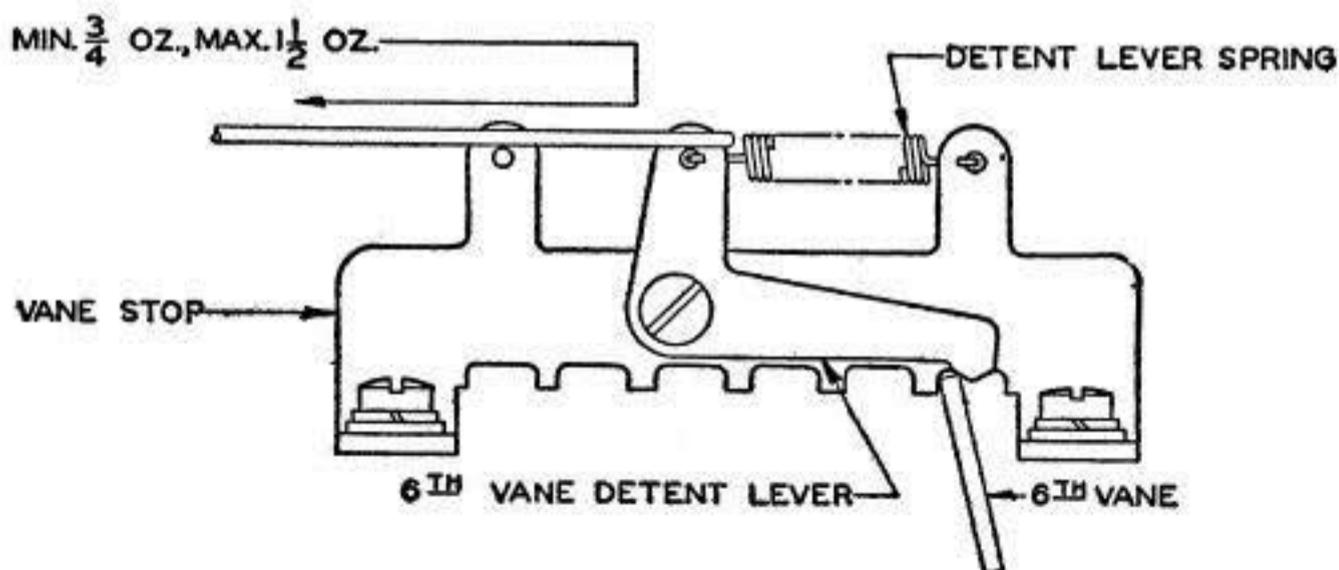

Fig 24
3.41 **Sixth-Vane Detent-Lever Springs:** It should require Min $\frac{3}{4}$ oz, Max $1\frac{1}{2}$ oz, to start each detent lever moving. Fig 24